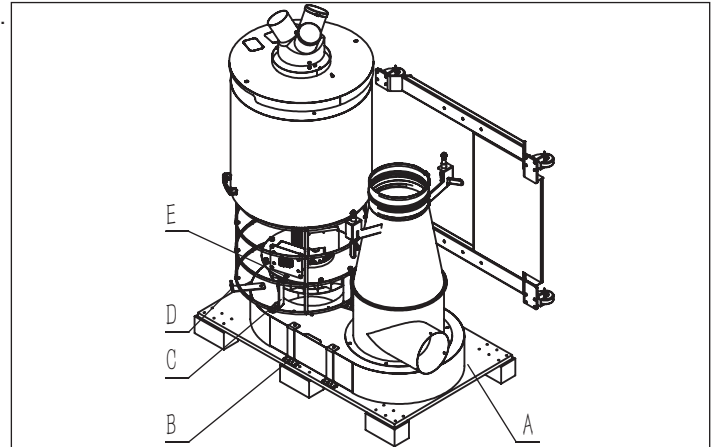

FIG. 6.2.1
6.2.1. Open the wooden box of the main engine. (See FIG. 6.2.1)